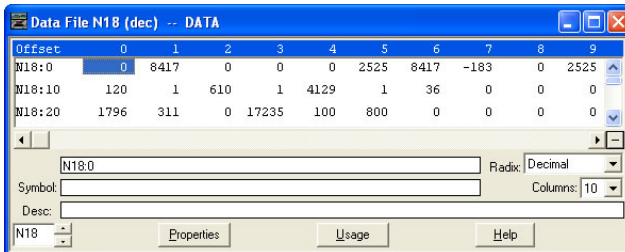

Figure 117: Monitoring the Data Being Read from the Inverter
- a) To view the registers being read from the interface card, double-click the data file N18 under "Data Files" in the controller organizer view. 25 register values starting at register #2050 are being continuously read from the interface card and placed in the 25 sequential offsets of N18 starting at N18:1. Refer to Figure 117. We can see that N18:9 (register 2058 / output frequency / function code M09) has a value of 2525 (25.25Hz), N18:12 (register 2061 / output voltage / function code M12) has a value of 610 (61.0V), etc.